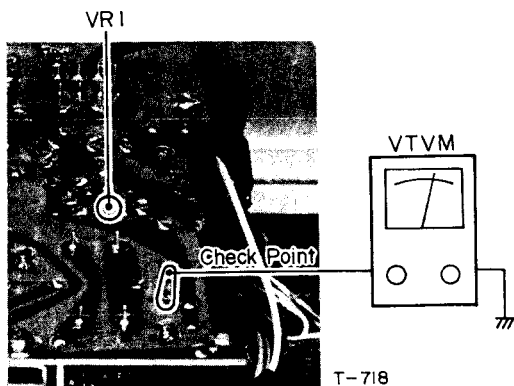

Fig. 8-2 +23 V DC Test Point
3. Connect a VTVM between the Control P.C.B. Test Point No. 3 and ground. See Fig. 8-2 below.